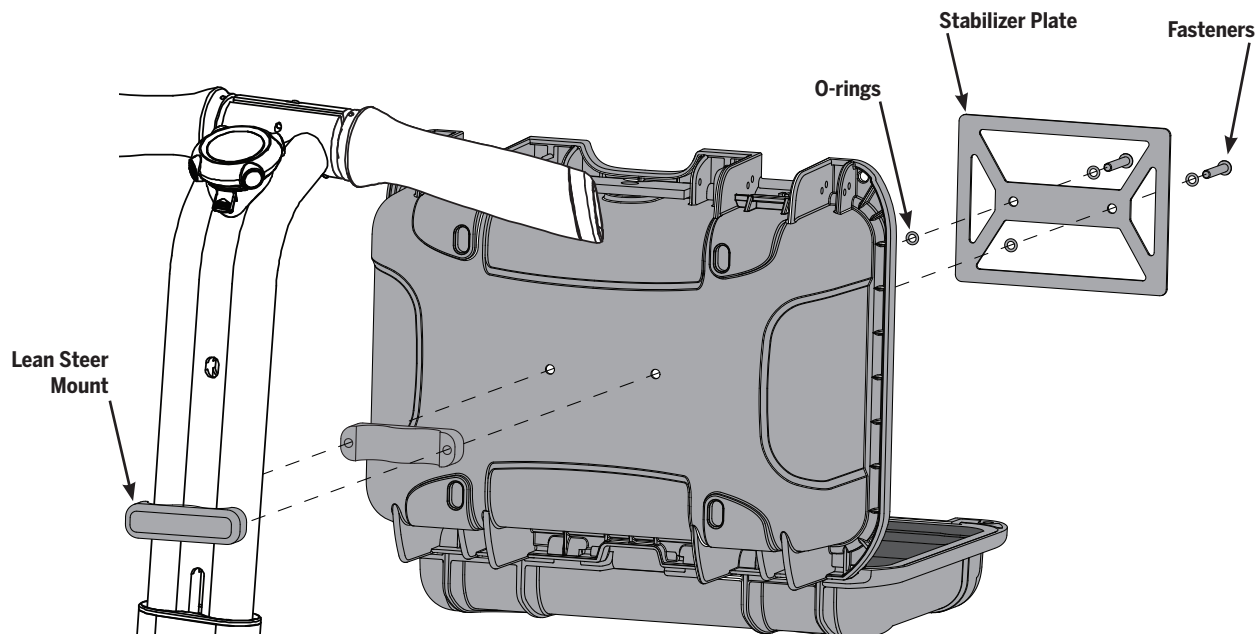

Figure 15. Install Front Case to Lean Steer
2. Install the Front Case to the Lean Steer using two 25 mm fasteners, four O-rings (two on each side of the Stabilizer Plate), and two Lean Steer Mounts, as shown in **Figure 15**. Torque the fasteners to **11.0 N-m (8.1 ft-lbf)**.